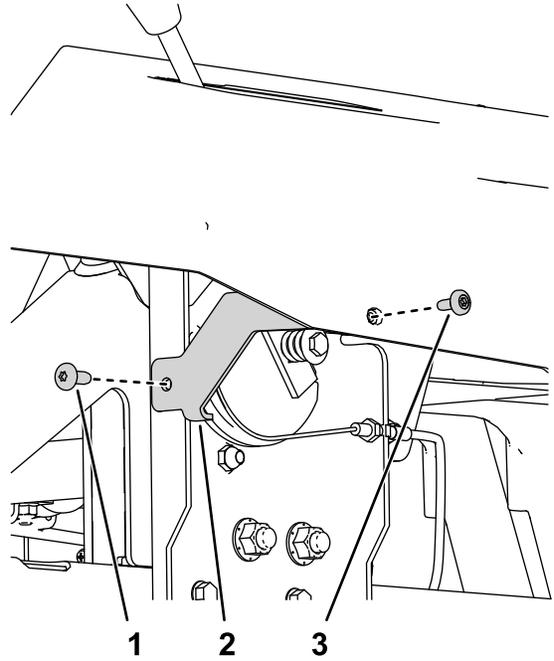

**Figure 6**
2. Install the left pod bracket to the machine frame using 2 thread-forming screws (5/16 x 3/4 inch) and the parts removed in 1 Preparing the Machine \(page 3\) as shown in Figure 6.